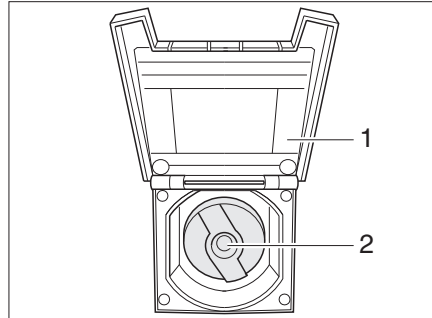

Fig. 367 Cap for the drinking water filler neck
- Open the cover flap (Fig. 367,1) of the drinking water filler neck. The cover is magnetically affixed to the outside wall of the vehicle.
- Insert key into locking cylinder (Fig. 367,2) and turn a quarter turn in an anti-clockwise direction.
- Open drinking water filler neck (Fig. 367).